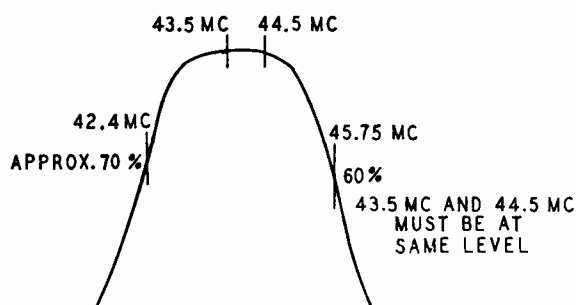

Fig. 3—Pix I-F Response From 1st Pix I-F Grid
2. With approximately —5.5V bias on AGC line (Test Point "B") connect sweeper to 1st I-F grid (Pin #1-V3.) Reduce sweeper output to compensate for additional gain of 1st stage (4.0V. P-P on oscilloscope). Adjust 1st I-F transformer primary (top) and secondary (bottom) for maximum gain and symmetry with 45.75 mc marker. (See Figure 3.)